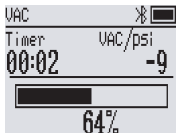

Figure 7 Vacuum test interface
❶ The high-voltage side channel is the vacuum test port of the system.
❶ When the pressure in the system is lower than the atmospheric pressure (that is, the pressure display is less than 0), it will display the vacuum degree of the system, otherwise it will display - - -.
5.The interface (Fig.7) displays the current pressure value of the system, the vacuum degree of the system and the timing of entering this interface.